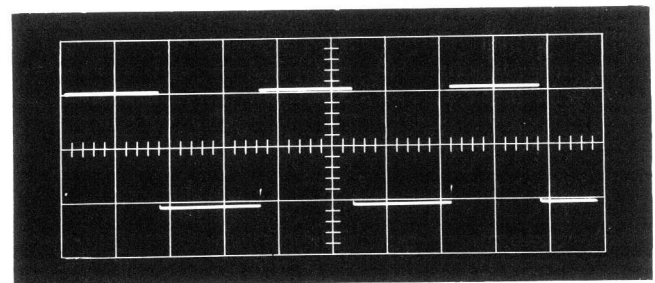

Fig. 3. Sweep rate 0.2 millisecond/div.
4. Slowly turn the bias control clockwise until the waveform amplitude suddenly increases to about 2 divisions (see Fig. 3). This point is the proper bias setting.
Figs. 3 and 4 show typical output signals from the TU-5 at various sweep rates. The small intensified portion at the base of each pulse shown in Fig. 3 is the relatively slow rising portion of the calibrator signal just before the tunnel diode switches.